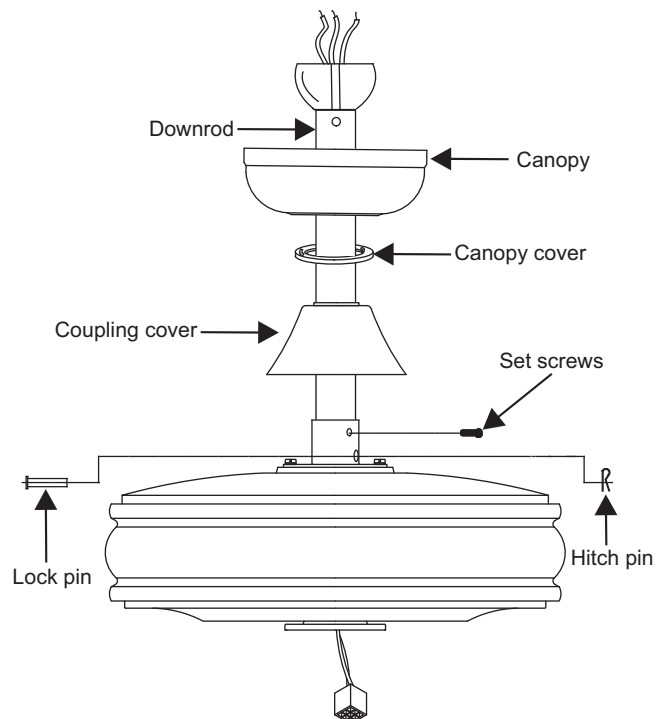

Figure 7
Step 6. Route wires exiting from the top of the fan motor through the coupling cover, canopy cover, canopy and then through the ball / downrod. (Fig. 7)
Step 7. Align the holes at the bottom of the downrod with the holes in the collar on top of the motor housing (Fig.7). Carefully insert the hanger pin through the holes in the collar and downrod. Be careful not to jam the pin against the wiring inside the downrod. Insert the locking pin through the hole near the end of the hanger pin until it snaps into its locked position, as noted in the circle inset of Fig. 7.
Step 8. Tighten two set screws on top of the fan motor firmly. (Fig. 7)